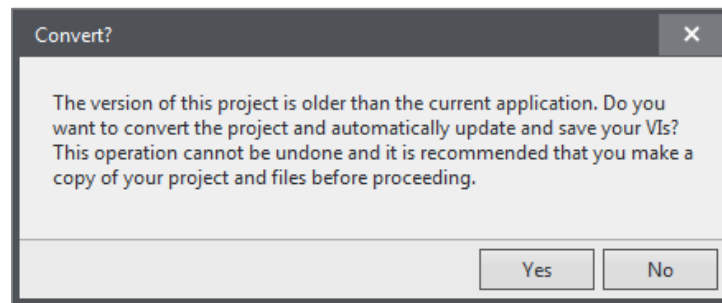

Figure 68: Convert Dialog
3. Click **Yes** to convert as shown in Figure 68.